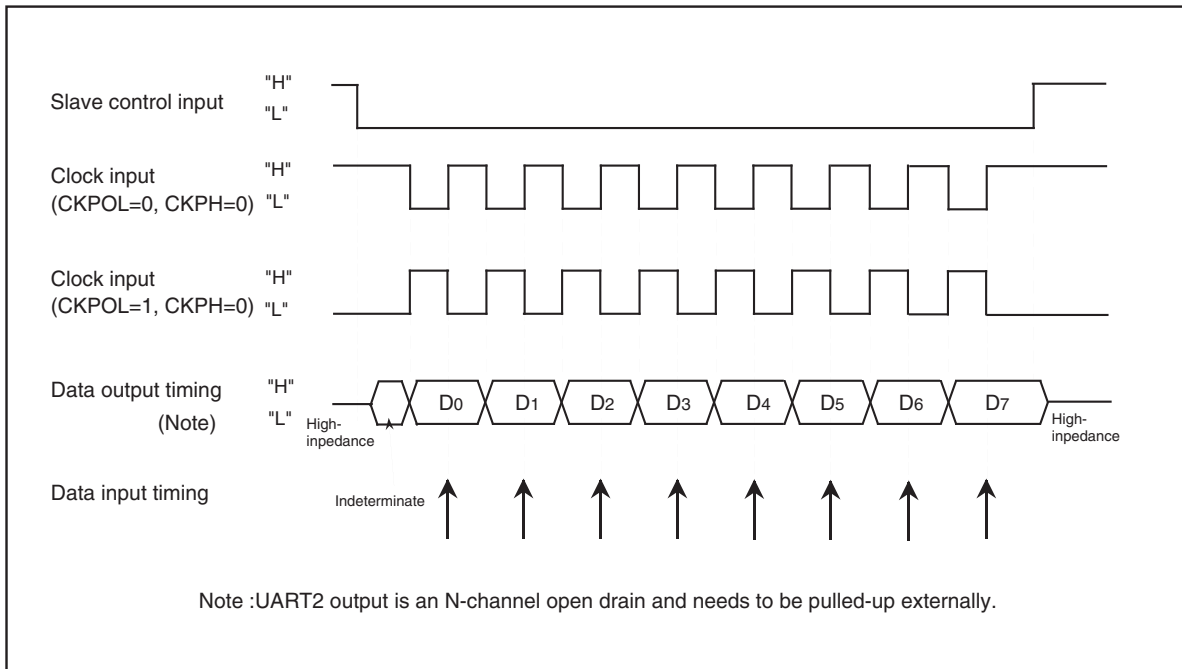

Figure 1.15.34. The transmission and reception timing (CKPH=0) in slave mode (external clock)
- Figure 1.15.34 shows the timing when bit 1 of address 037516="0"